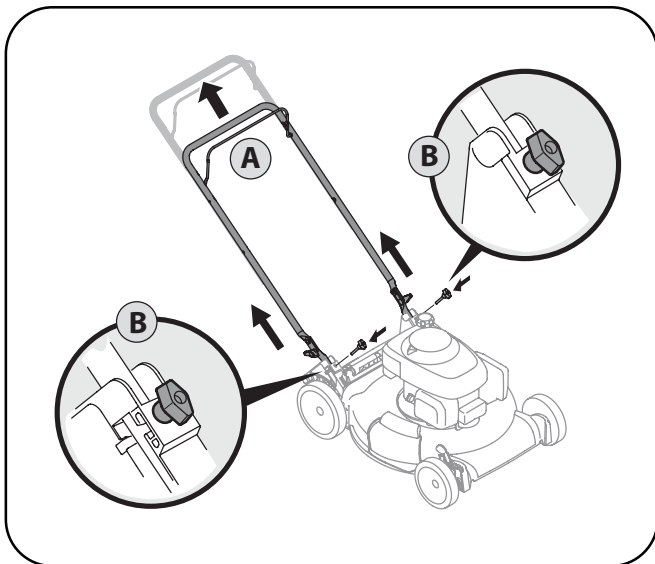

Figure 3-4
- b. Insert the t-bolts removed in step 1b through the handle brackets and lower handle and tighten securely to secure the handle in place. See Fig. 3-4.